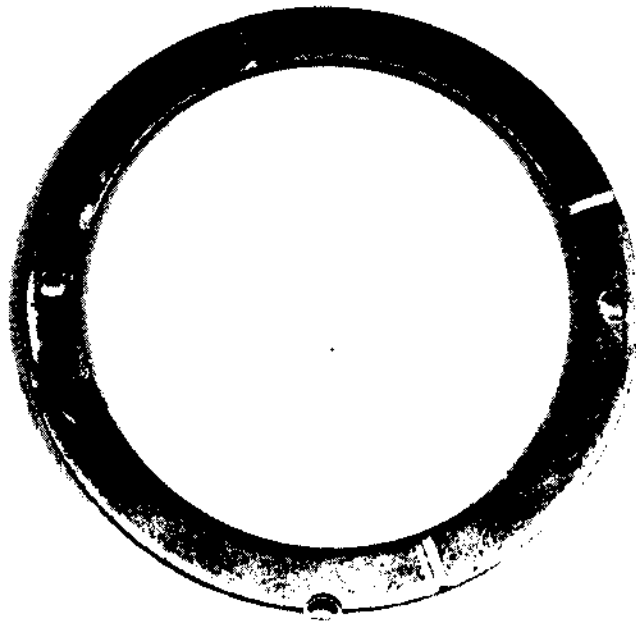

FIGURE 3
6. Drill two 1/8" pilot holes in the new style thrust bearing (Figure 3). The holes should be located 90° from the upset and 180° from each other. They should be midway between the bearing I.D. and O.D. and approximately 3.6 in. apart.